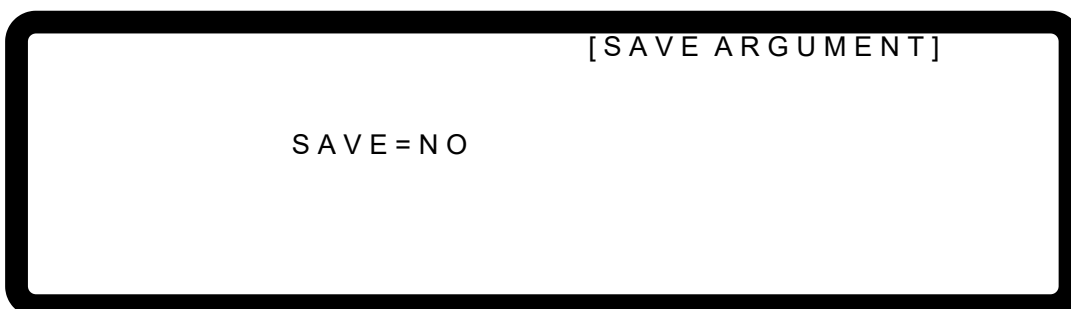

Figure 3-126
- The APG current calibration is done once the above actions are completed. To save the calibration data, press will prompt a confirmation page as Figure 3-126 shows. Press or "Rotary" (⊙) to set SAVE=YES and press to save it. If there is no need to save it, press to return to the Calibration screen.